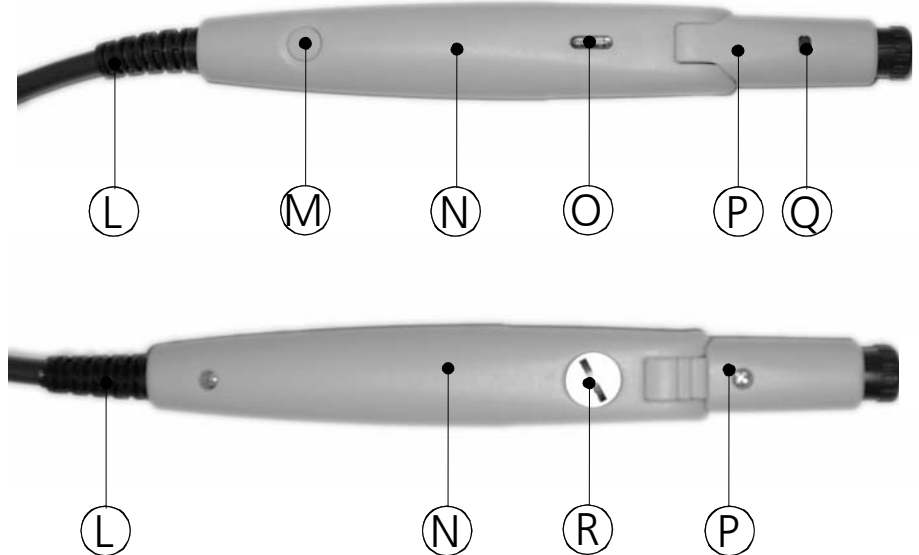

Figure 7
The probe of the MI 44 is shown in figure 7. The probe head is adjustable to three angles (0°, 60° and 80°). It is adjusted by turning the locking screw (R) at the bottom of the probe using a coin or a screw driver. Adjust the probe head (P) by pulling it into the required position until it rests. After it is set to the required position tighten the fixation screw again.